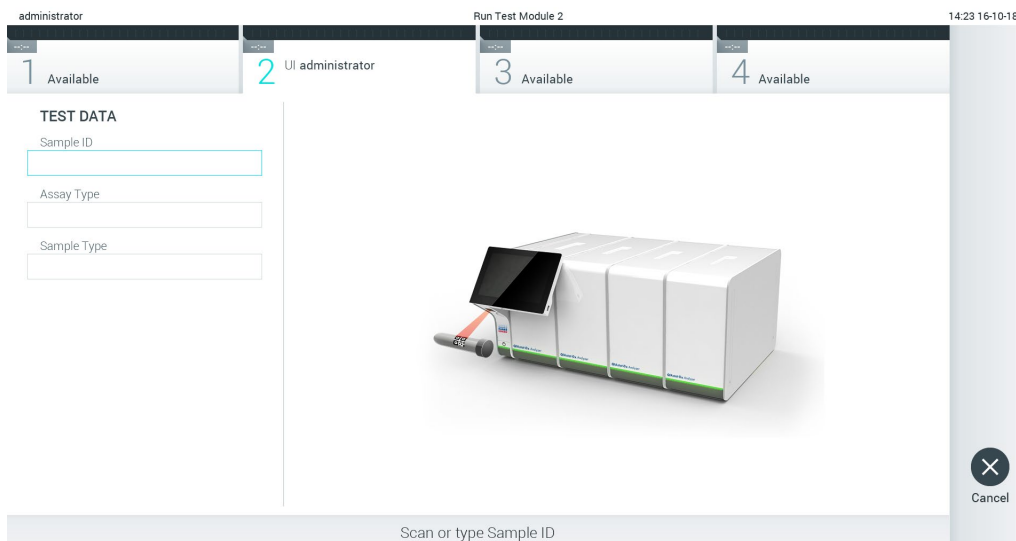

Figure 72. Scanning the sample ID bar code.
2. When prompted, scan the sample ID bar code using the bar code reader that is integrated into the Operational Module (Figure 72, next page).